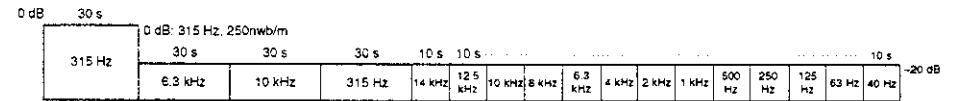

Fig. 5-3 Constants of the test tape STD-331E
- STD-331E : Playback adjustments (See Fig. 5-3)